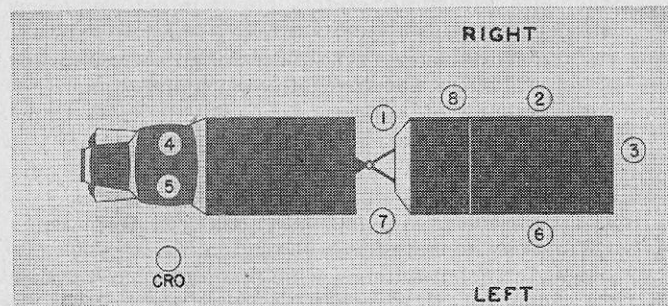

FIGURE 54.—Initial stations at command EMPLACE.
■ 55. EMPLACE.—Command is given by CRO. The men move from the positions assumed at the command FALL IN to positions shown in figure 54 and work as follows: